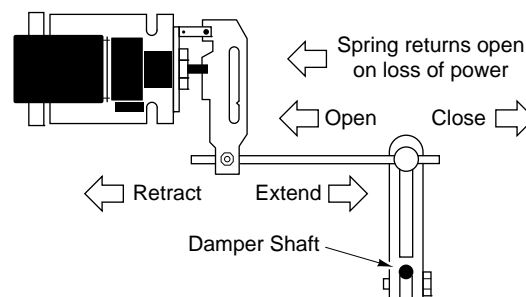
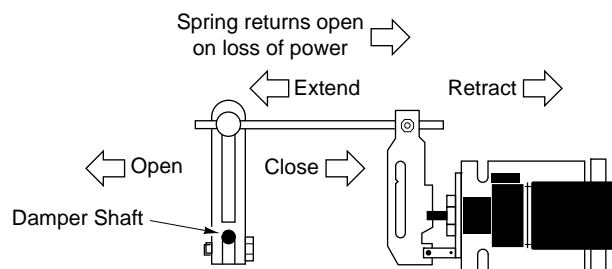

Figure-12 Dampers Open When Actuator Retracts (Spring-Returns Open on Power Loss).
Figure-13 Dampers Open When Actuator Extends (Spring-Returns Closed on Power Loss).
- a. Determine, from the system requirements, if the damper should spring-return to the open position (refer to Figure-12) or closed position (refer to Figure-13) whenever power is lost to the actuator. For example, an outside air damper actuator is typically linked so as to retract (spring-return) to the damper's fully closed position (safe position).